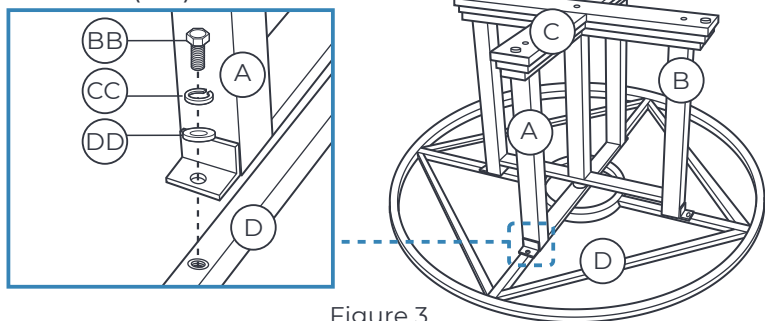

Figure 3
See Figure 3. Use the wrench (FF) to attach the assembled table base (A) to the table top (D) with 4 M8x20 bolts (BB), M8 washers (DD) and lock washers (CC).